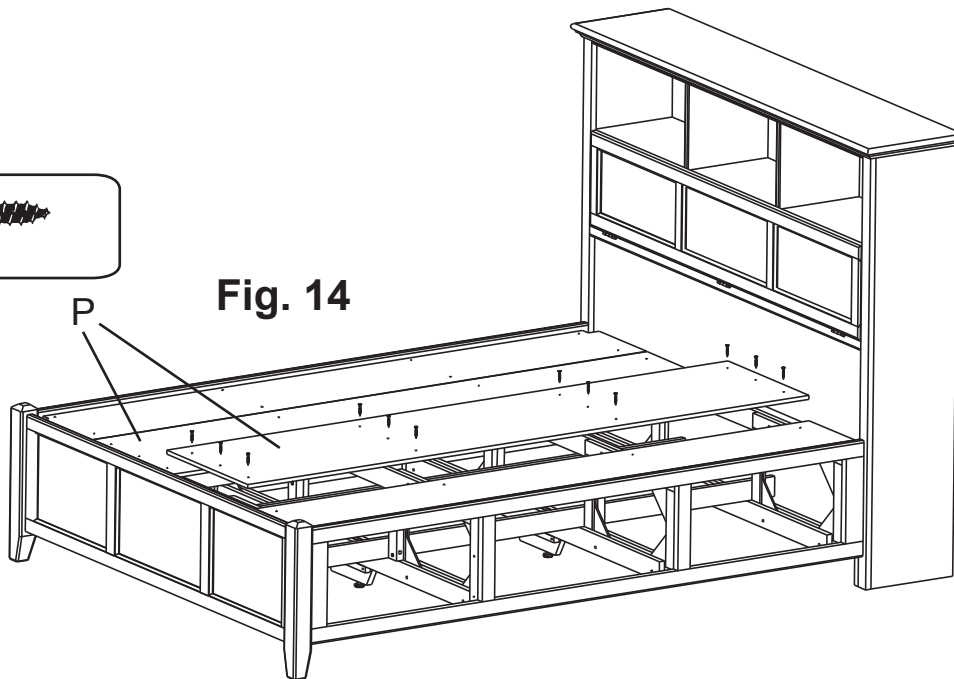

Fig. 14
14. Place the Deckboards (P) as shown in Figure 14. There should be a small gap between each deckboard. Secure with 24 #8x1-1/4" Screws (E).